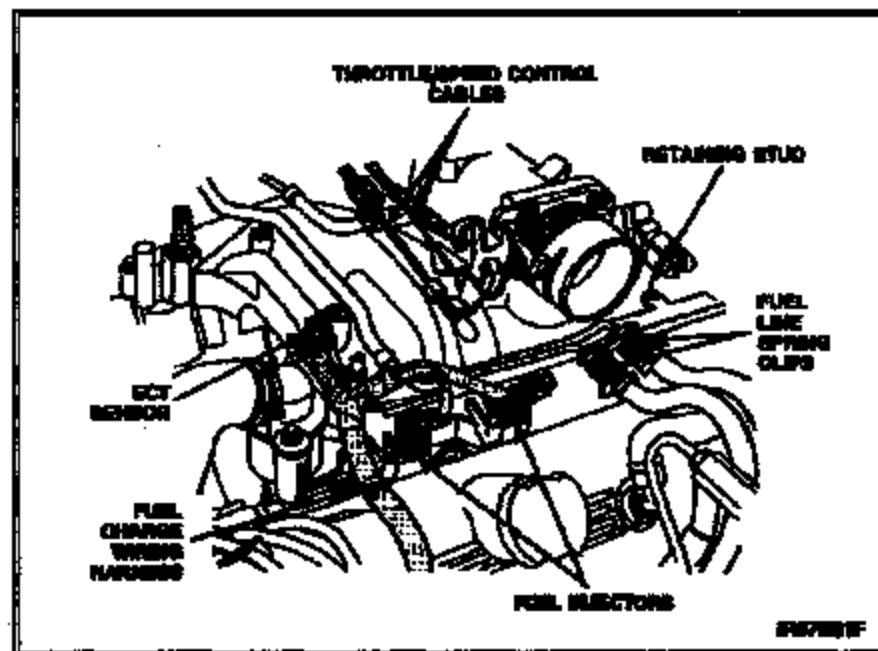

Figure 6
22. Disconnect throttle and speed control cables from throttle body. See to Figure 6. Position cables away from intake manifold.
23. Disconnect fuel charge wiring harnesses from left side fuel injectors, Engine Coolant Temperature (ECT) sensor and retaining stud. See to Figure 6.
24. Disconnect fuel lines at spring clips. See Figure 6.